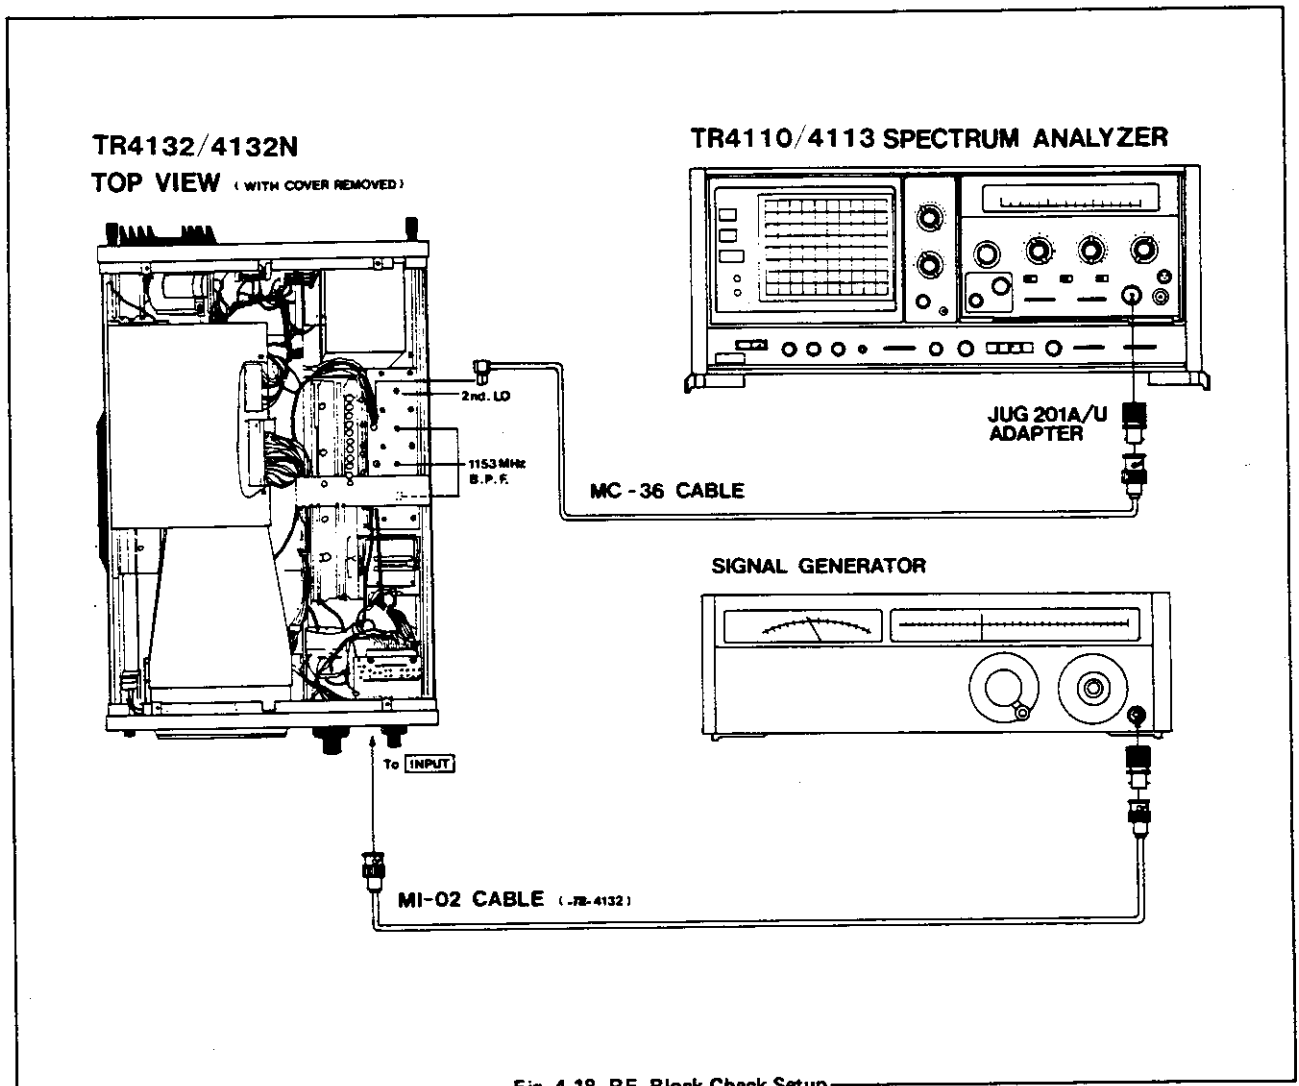

Fig. 4-18 RF. Block Check Setup
- (1) Connect the Spectrum Analyzer to **IF OUTPUT** (J46) and verify the frequency (2nd Local) is  $1200\text{MHz} \pm 3\text{MHz}$ . [Fig. 4-18]
- (2) Set connection of **IF OUTPUT** (J46) to original condition.